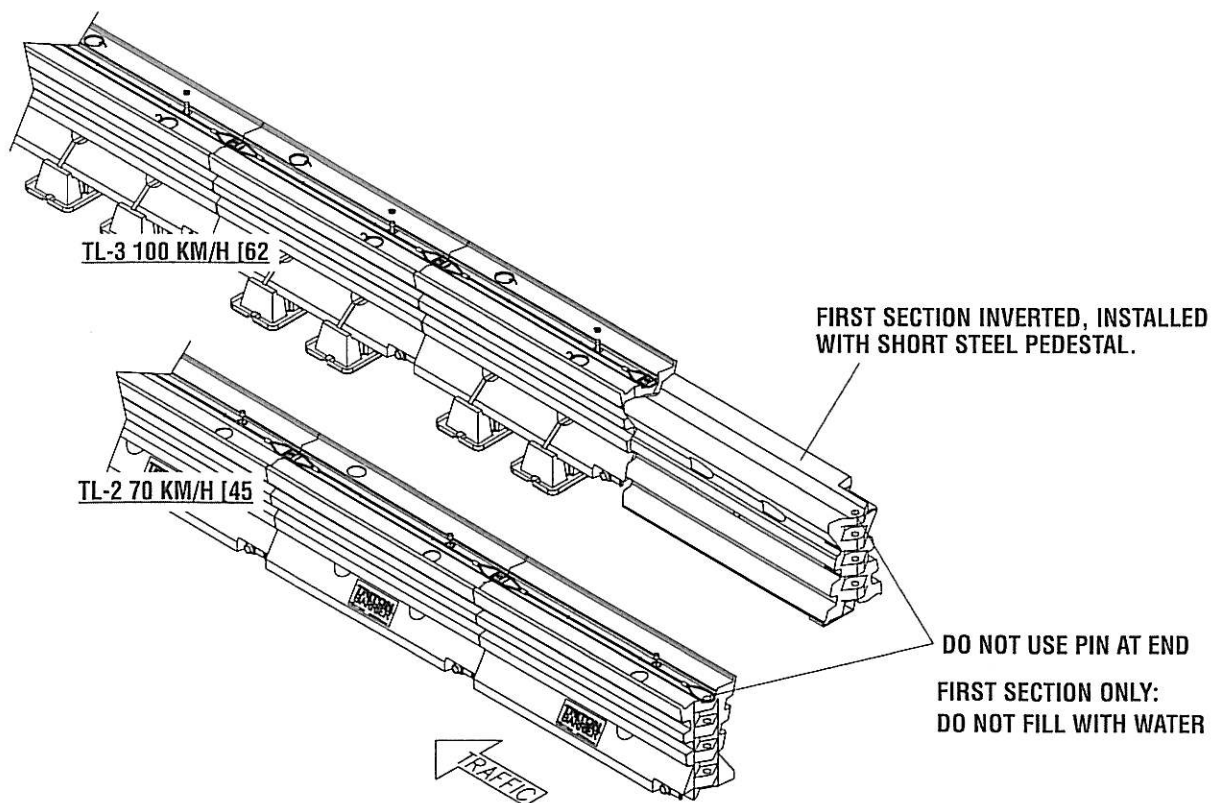

Figure 5
9. Bring the first barrier segment into place. For TL-3, be sure it is empty, turned upside down, and has a short pedestal attached (see figure 5). For TL-2, the first Triton barrier segment is empty but oriented right-side-up (see figure 5). Insert a connecting pin through the second TRITON segment top cable and into the overlapping end knuckles. **IMPORTANT! The pin must be removed from the exposed end.**